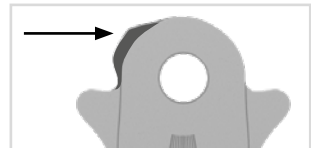
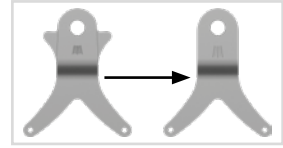

fig. 29
fig. 31
If you do not need the conversion options, you can completely file off the noses along the vertical line (fig. 31).
- 1 File along the laser line on the system stirrup (fig. 29).
- 1 File along the laser line on the system stirrup of the NEURO CLASSIC-SWING (fig. 29). On the system stirrup of the NEURO SWING-CLASSIC, you can completely file off the noses along the vertical laser lines (fig. 31). However, this is meant only for visual purposes – the function is also given without filing off the noses.